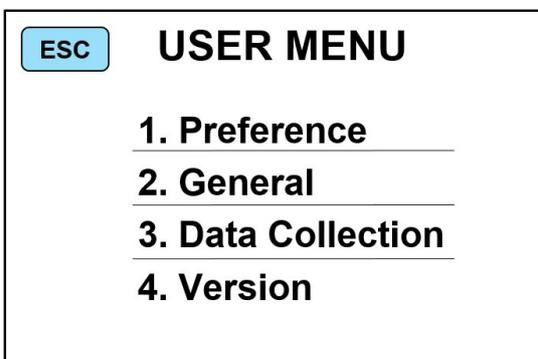
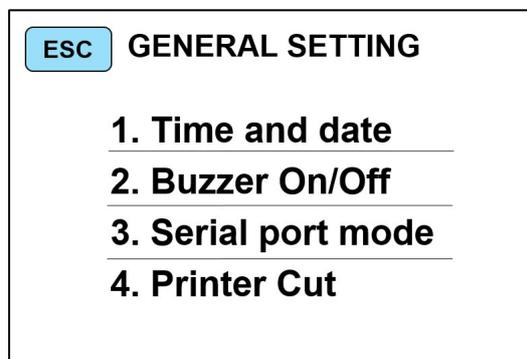

Figure 26
Figure 47
1) Press the “” key to enter the main interface of USER MENU, as shown in Figure 26 below, Press “**2.General**” to enter into GENERAL SETTING interface as figure 47.